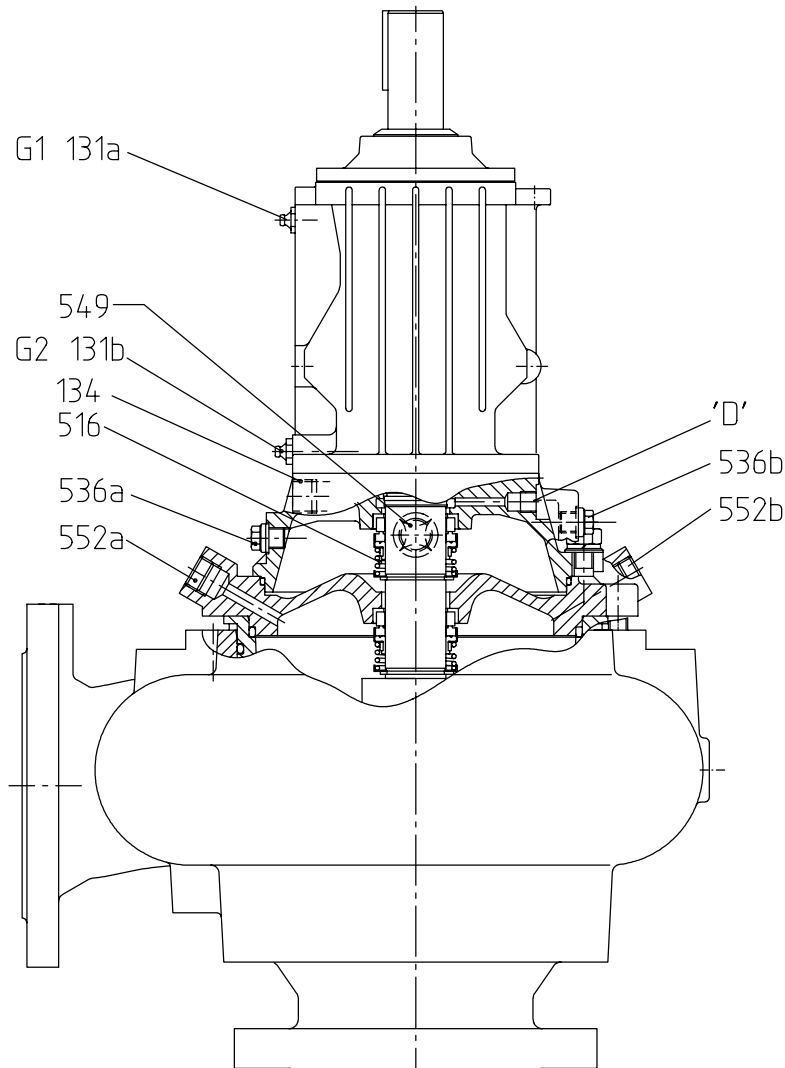

fig. 2.3
2.6.3 BEDRIJFSAANSLUITINGEN, fig 2.3